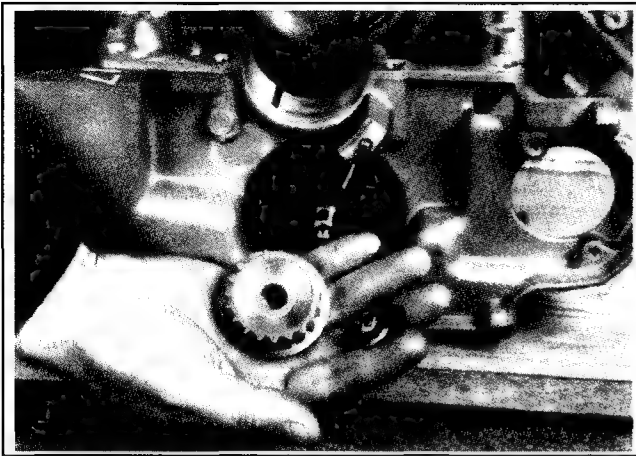

Figure 11-12. Oil Pump Drive Gear Parts.
4. Install the oil pump drive gear on pump shaft. See Figure 11-12.